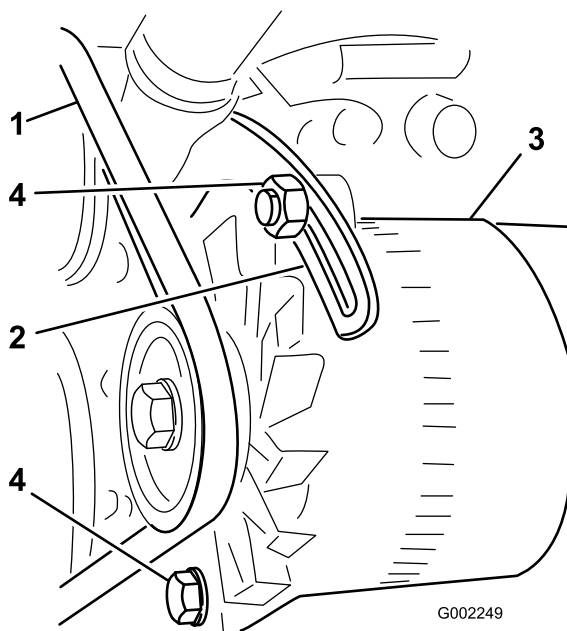

Figure 106
3. Loosen the bolt at the pivot point of the alternator; loosen the bolt that secures the alternator to the slotted brace (Figure 106).